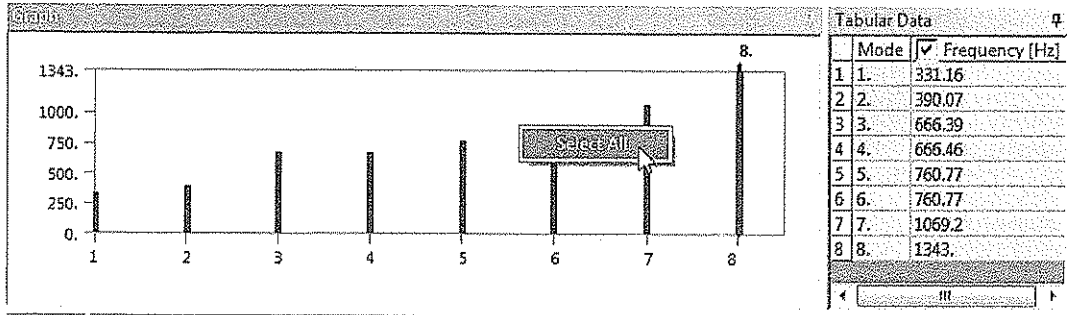

Figure 10-47 The **Graph** and **Tabular Data** windows
3. Next, choose the **Solve** tool from the **Standard** toolbar; the analysis is solved. Also, the **Graph** and **Tabular Data** windows are displayed, as shown in Figure 10-47.
1. Select the **Solution** node in the Tree Outline; the **Graph** and the **Tabular Data** windows with all their contents are displayed, refer to Figure 10-47.
2. Right-click in the **Graph** window; a shortcut menu is displayed, refer to Figure 10-47.